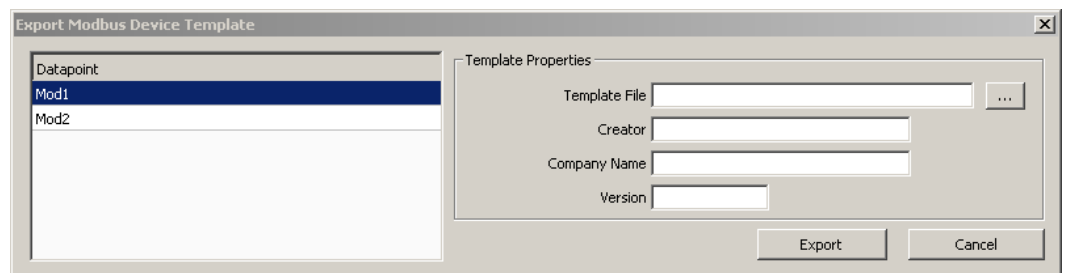

Figure 154 Export Modbus Device Template dialog.
- Press the **Export Device Templ.** button. This opens the **Export Modbus Device Template** dialog shown in Figure 154. The list on the left side of the dialog shows the names of the data points which are exported to the template.
- This opens the **Export Modbus Device Template** dialog as shown in Figure 154. Proceed as described above.